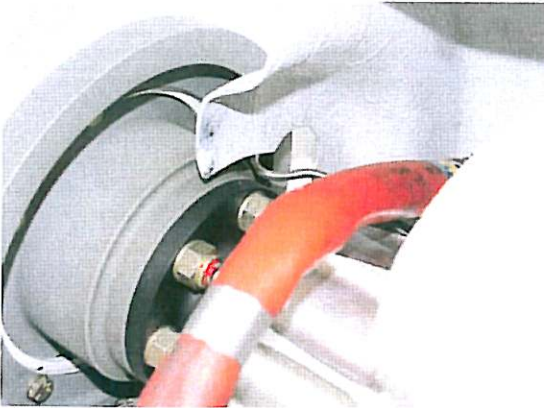

Figure 6
10. Make sure that the de-icing nozzle is located in the middle of the cut-out in Top RH Cowling, by attaching the Bottom Cowling and the Top RH Cowling provisionally. See Figure 6.